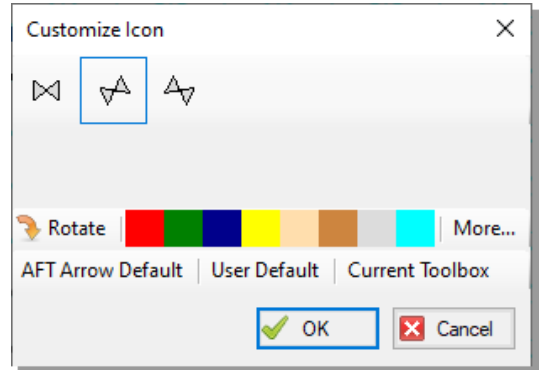

Figure 3.18 Right click on the junction to open the Customize Icon window and select the preferred settings
4. You will notice that placing junctions onto the Workspace follows the usual rules, however, the visual appearance of the icons can be more complex than on a 2D grid. Due to the increased number of axes, the preferred icon and rotation can be selected to obtain visual consistency. Right click on J7 and select Customize Icon. Select the icon shown in Figure 3.18.